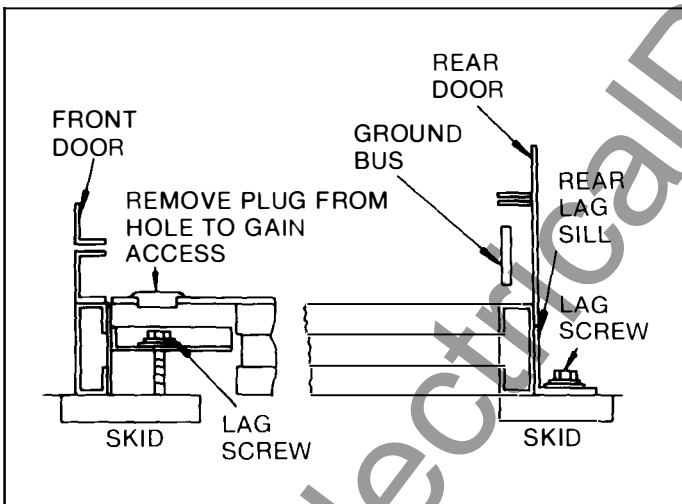

Fig. 4-6. View showing method of attaching equipment to shipping skids
2. REMOVE THE SHIPPING SKIDS—The equipment is fastened to the shipping skids with $\frac{3}{8}$ lag screws through the equipment anchoring holes. See Fig. 4-6.